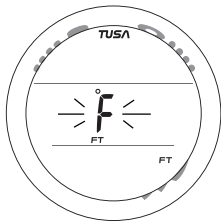

Fig. 45 - SET UNITS
**Set Units** information includes (Fig. 45):